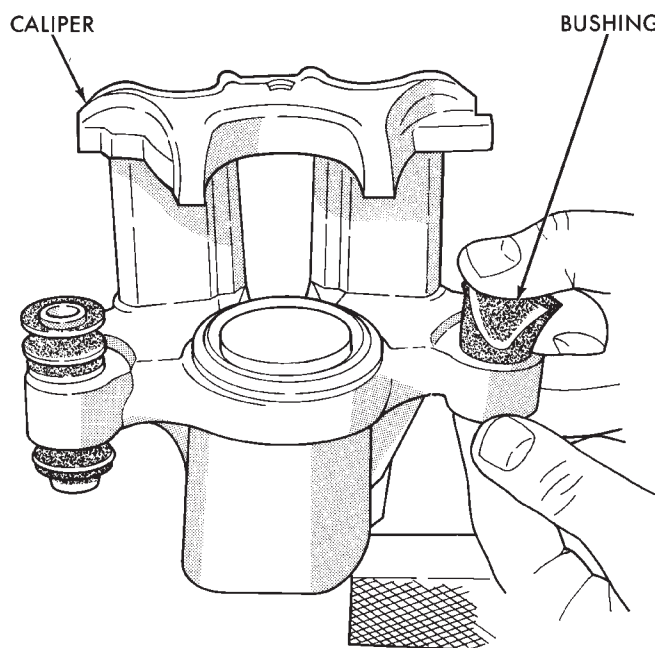

Fig. 165 Removing Bushing From Caliper
(3) Using your fingers, collapse one side of the bushing. Then pull on the opposite side to remove the bushing from the brake caliper housing (Fig. 165).